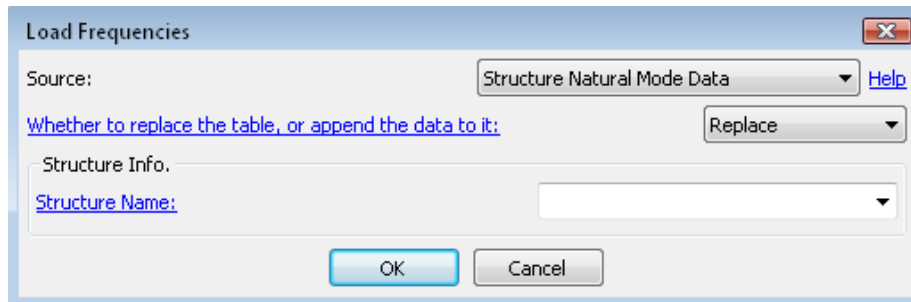

Figure 7.22 Load frequencies from the structure natural mode data.
7.2.2.6. Structure Natural Mode Data Analysis frequencies could be extracted from a structure's natural mode data using this option (Figure 7.22). Verify whether the selected structure (defined in **Structure Name**) has natural mode data from: **Model** → **Structures** → <Structure Mesh Name> → **Natural Mode Data**. See Section 5.1.3 on how to load natural mode data of a structure to the *Coustyx* model. Press OK to load natural frequencies. A new dialog box with a list of available natural frequencies from the natural mode data